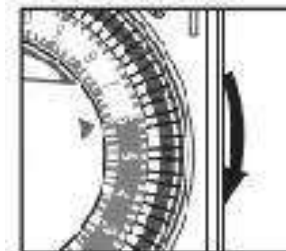

Fig 2
**Example:** It is 6:00AM, please rotate the dial clockwise until the arrow aligns 6AM on the dial. (Fig 2)